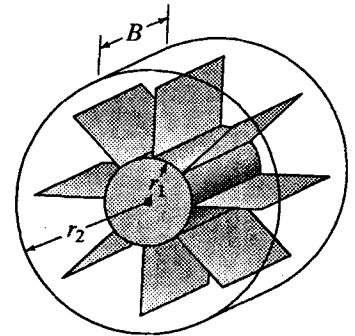

Figure P6.44
- 6.44 A paddle wheel with vanes that are all straight and radial is to be used as a crude centrifugal pump for water (Fig. P6.44): $r_1 = 3$ in, $r_2 = 9$ in, and the dimension B perpendicular to the plane of the figure is 0.2 ft. If the speed is 1200 rpm and the flow is 3380 gpm, (a) at the centerline elevation find the difference in pressure (psi) between the inner and outer circumferences, neglecting friction losses, (b) find which of these two points has the higher pressure, (c) compute the torque required to drive the pump, (d) calculate the horsepower requirement, and (e) verify that the horsepower requirement is equal to the difference between the horsepower of the outflow minus the horsepower of the inflow.